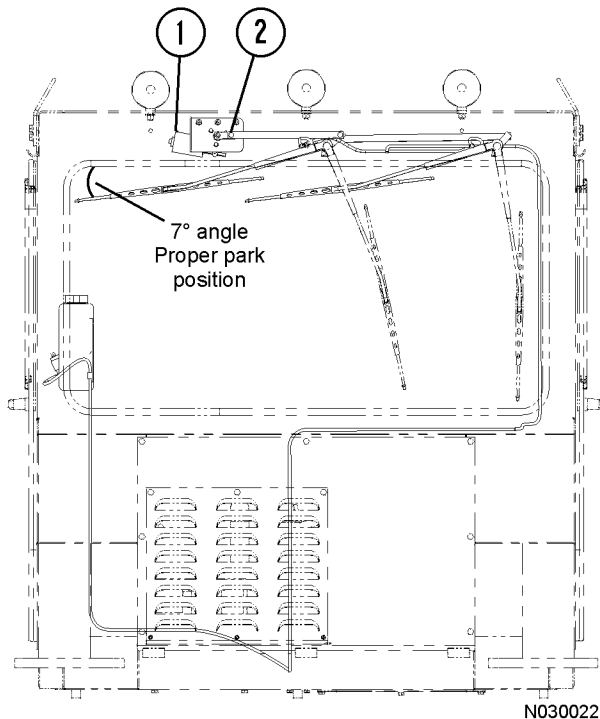

FIGURE 3-3. PARK POSITION
3. Ensure the wipers arms operate properly and park in the proper position after installation is complete. Refer to Figure 3-3.
2. Remove wiper retainer (2, Figure 3-3) and disconnect the wiper linkage from the wiper motor drive arm.
4. Align the linkage and attach to the wiper motor drive arm using retainer (2, Figure 3-3).
*NOTE: When the motor is parked, the drive arm will be in the 3 o'clock position as shown in Figure 3-3.*